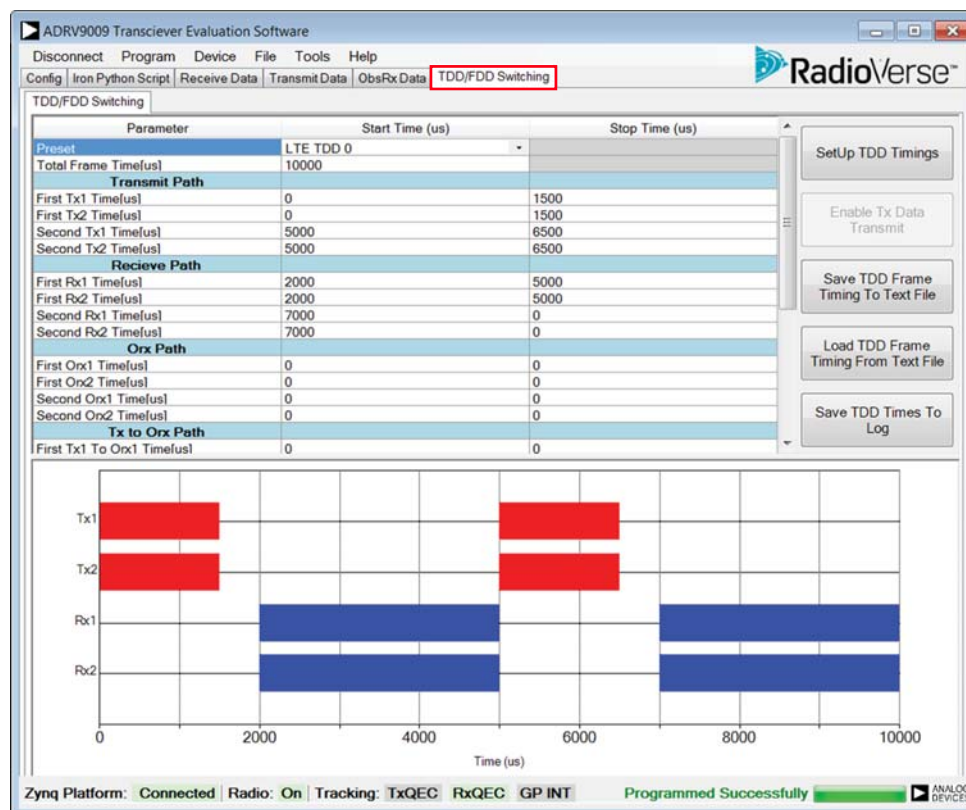

Figure 41. TES TDD Interface Tab
8. The final step requires the user to select the desired TDD timing profile using the **TES TDD/FDD Switching** tab shown in Figure 41. See the TES Interface for TDD Mode section for a detailed description of this tab. After all timing settings are configured,
If the device is programmed successfully, the **TDD/FDD Switching** tab in the TES becomes active. Figure 41 shows the TES TDD interface tab. The parameters available to the user in this tab are as follows: